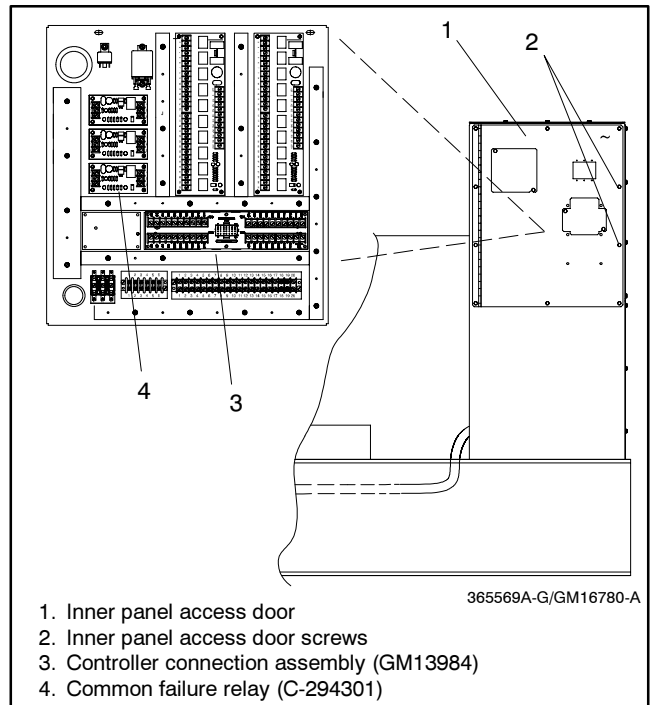

Figure 4 Terminal Block Bracket Mounting in Junction Box (450–2000 kW)
(X-70-12). Place the spacers between the controller connection assembly and the mounting bracket. See Figure 4 for the mounting location.
- 3.3.1 Mount the common failure relay (C-294301) to the junction box bracket studs using four spacers (X-712-9) and nuts (X-70-12). Place the spacers between the common failure relay and the mounting bracket. See Figure 4 for the mounting location.